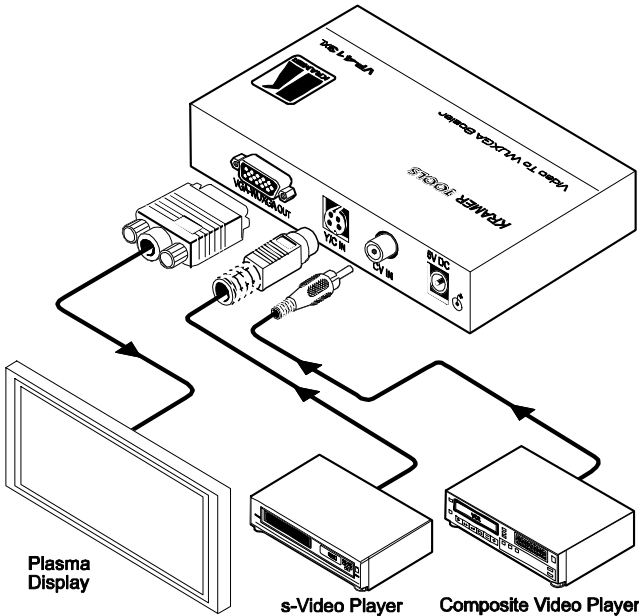

Figure 5: Connecting the VP-413xl
To connect the **VP-413xl**, as illustrated in the example in Figure 5, do the following¹:
3. Connect the 5V DC power adapter to the power socket and connect the adapter to the mains electricity (not shown in Figure 5).